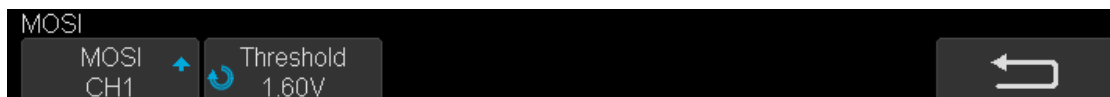

Figure 45 MOSI Menu
4. Press **Signal** softkey to enter the **SIGNAL** menu as Figure 45 shows.